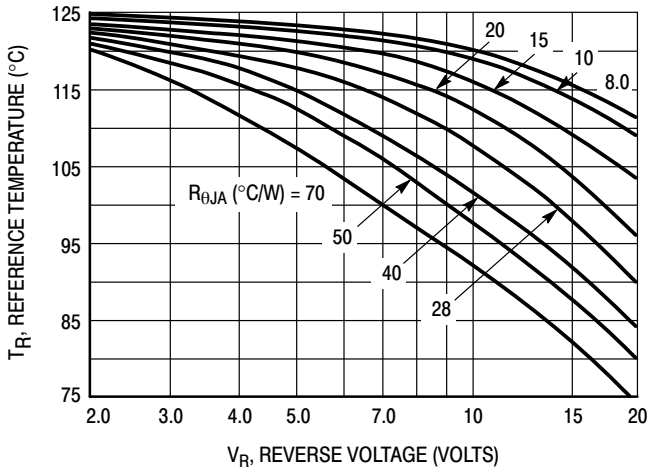

Figure 1. Maximum Reference Temperature
Figures 1, 2, and 3 permit easier use of equation (1) by taking reverse power dissipation and thermal runaway into consideration. The figures solve for a reference temperature as determined by equation (2).
Inspection of equations (2) and (3) reveals that T_R is the ambient temperature at which thermal runaway occurs or where $T_J = 125^\circ\text{C}$, when forward power is zero. The transition from one boundary condition to the other is evident on the curves of Figures 1, 2, and 3 as a difference in the rate of change of the slope in the vicinity of 115°C. The data of Figures 1, 2, and 3 is based upon dc conditions. For